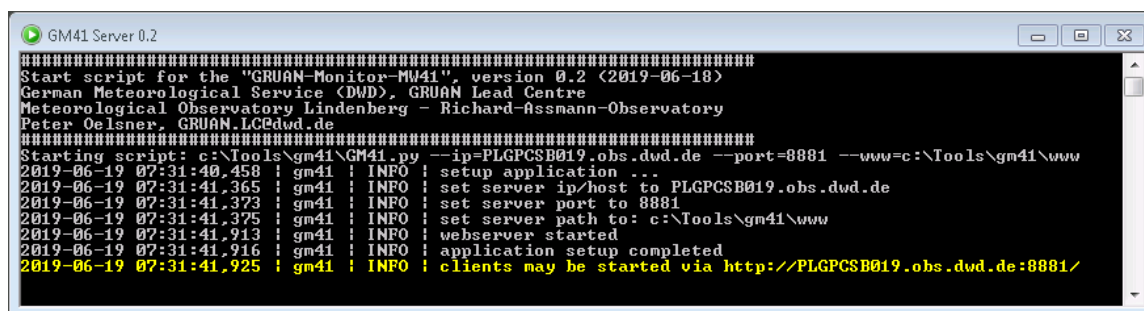

Figure 2.7: Window with runtime information of GM41 server using a non default host name (PLGPCSB019.obs.dwd.de).
11. Start the GRUAN Monitor MW41 server by clicking the server shortcut on the Windows-Desktop or directly by running `gm41.bat` from the command line in the applications root directory. A command prompt window should appear, showing some runtime information. Please wait some seconds until the application is fully loaded (see Figure 2.7).